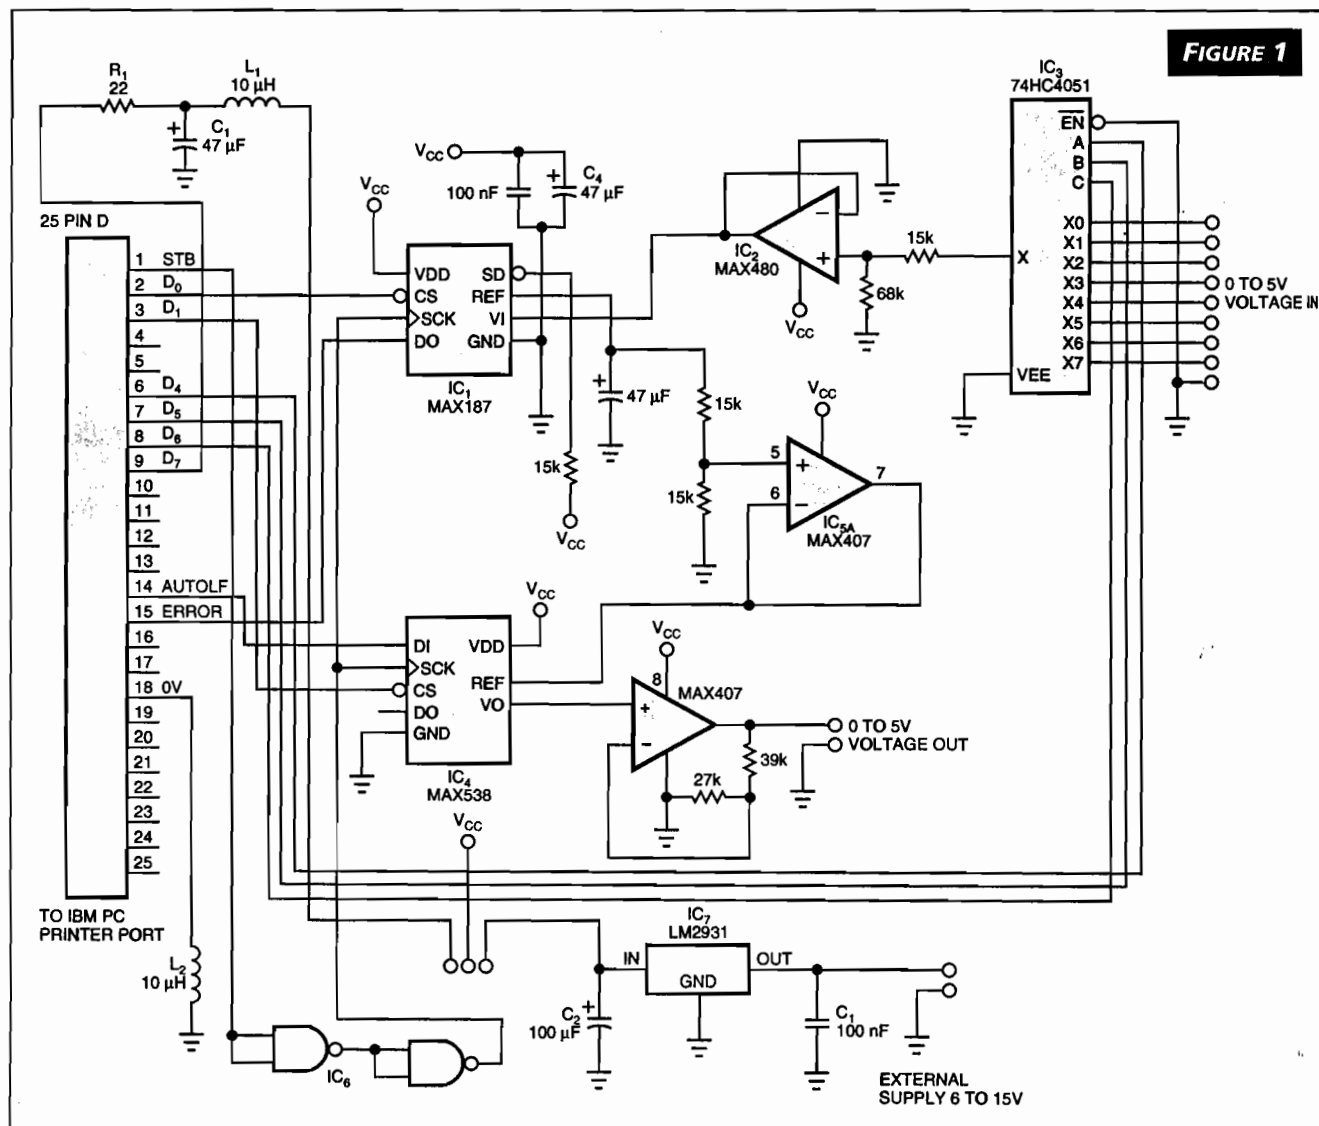

FIGURE 1
**BBS** The 12-bit analog I/O board in Fig 1 plugs into a PC's printer port. Thus, you can move the board around your laboratory more easily than you can exchange A/D boards that plug into the PC's backplane. The board handles eight 1-kHz input signals ranging from 0 to 5V max.